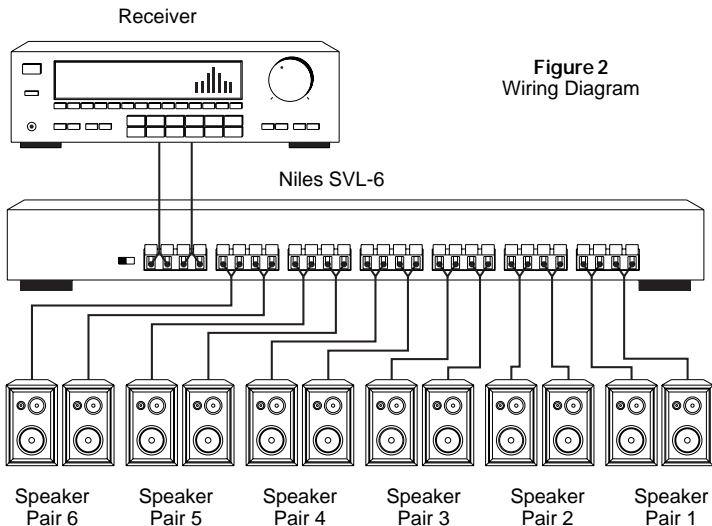

Figure 2
2. Run all the necessary wiring to the SVL-6. Label the wires for future reference. See (Figure 2).